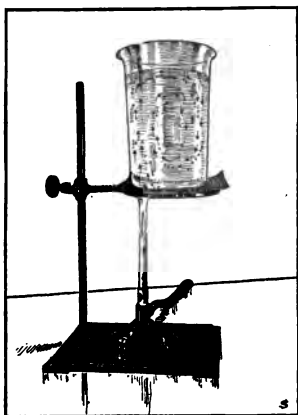

FIG. 149. Explain why there are currents in the water.
**Exercise 4.** Put some fine sawdust or, better, a bit of blue litmus into a beaker glass of water. Gradually heat the water and notice the currents in the water as indicated by the movement of the dust particles (Fig. 149). Does the warm water rise of its own accord? Or, rather, does not the cold, and therefore heavier, water settle to the bottom and force upward the warmer and lighter water? If this is the case, what force causes heated air and heated water to rise? Explain what causes the movements in the water.